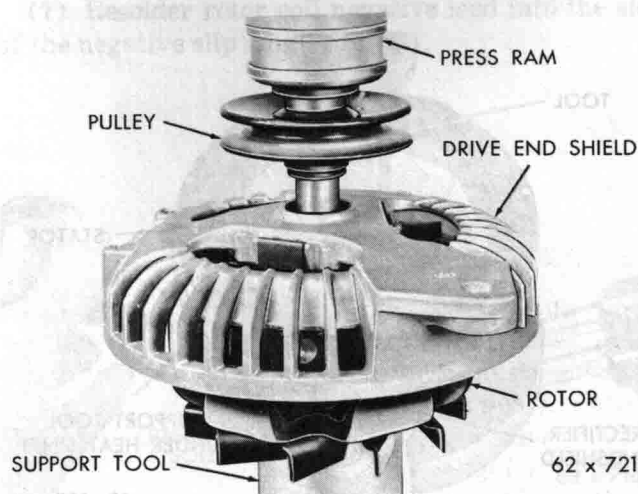
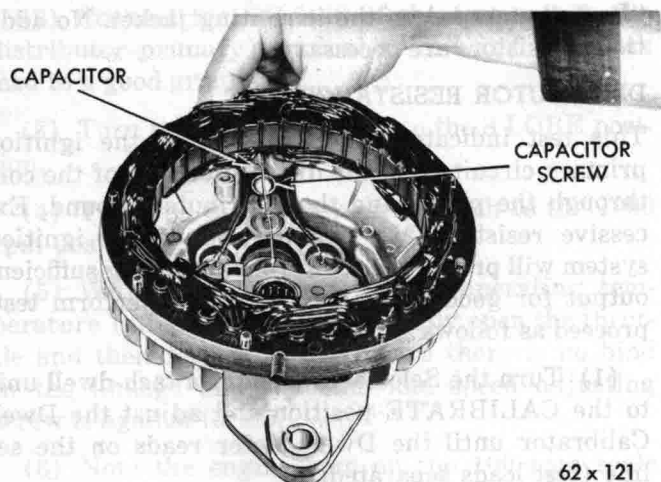

Fig. 59—Installing Alternator Pulley
Fig. 60—Installing Inside Capacitor
**NOTE: Make sure support tool is positioned so that notches in support tool clear the rotor lead wires (Fig. 59). Do not exceed 6800 pounds pressure. Press the pulley on the rotor shaft until the pulley contacts the inner race of the drive end bearings.**
(11) Where the alternators have the capacitor mounted internally; make sure the heat sink insulator is in place.
(12) Install the output terminal screw with capacitor attached through the heat sink and end shield (Fig. 60).
(13) Install the insulating washers, lockwashers and lock nuts.
(14) Make sure the heat sink and insulator are in position and tighten the lock nut.